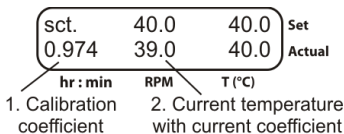

Fig. 5. Control panel in calibration mode
- 6.4.6. Using the **▲** and **▼ T, °C** keys, change the calibration coefficient (fig. 5/2) so that the new temperature value (fig. 5/2) corresponds to the independent sensor temperature. In our example, the calibration coefficient will be 0.974.